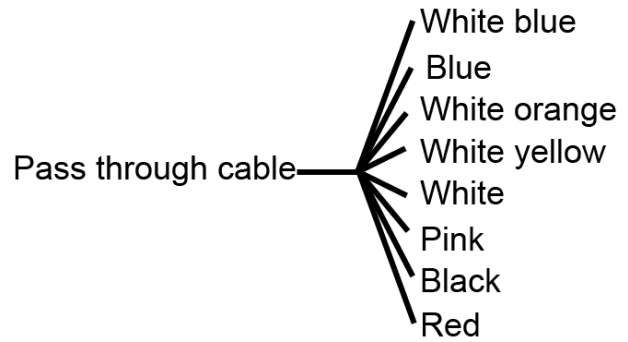

Figure 2
3.8 Protocol and the default baud rate is set. Figure 2 shows, SW3 set PTZ using communication protocol and baud rate. SW3's DIP-4 choose protocol, set DIP-4 to be OFF, is PELCL-D protocol.
3.9 Communication baud rate set. Figure 2 as shown, SW1 set PTZ communication protocol and baud rate. SW2's DIP-6, DIP-5 choose communication baud rate, at most choose 4 kinds of baud rate. If the controller using nonstandard baud rate, please follow the table below to adjust the baud rate used in PTZ to match the host.